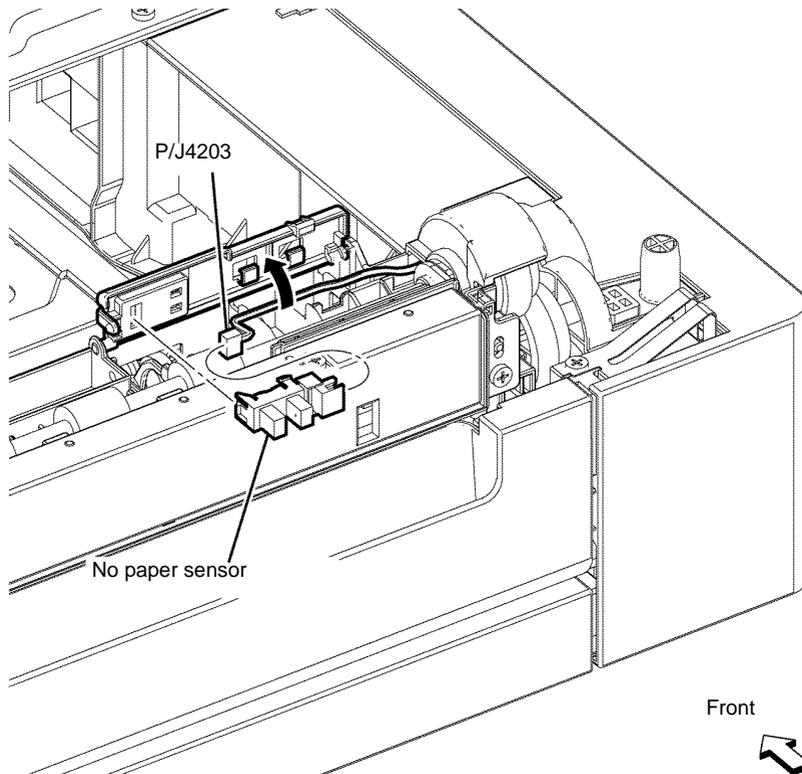

Figure 1 Option feeder no paper sensor removal
3. Disconnect P/J4203, then remove the option feeder no paper sensor, Figure 1.